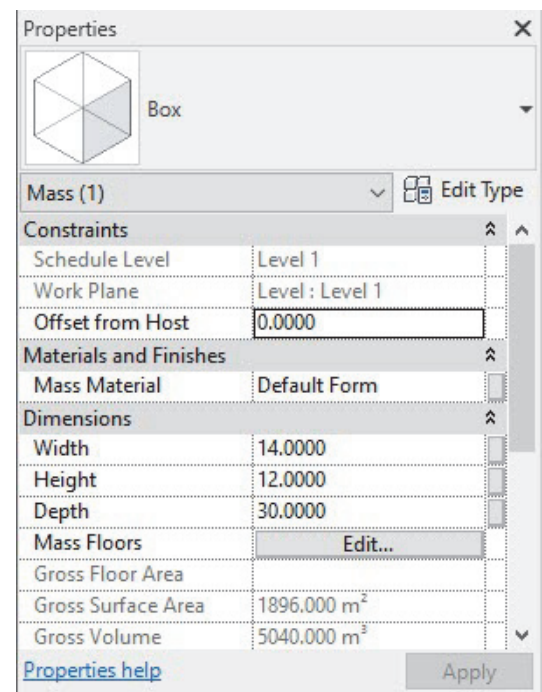

Figure 1-20
7. Use Properties to set the heights as indicated on the existing site plan, as shown in Figure 1-20.